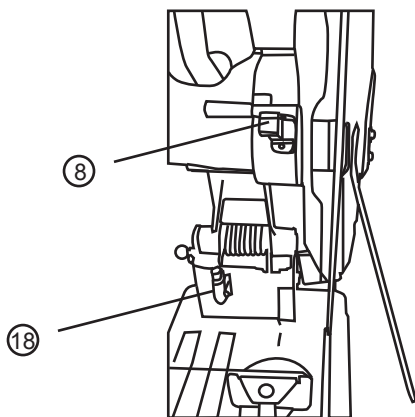

Figure 5: Removing Cut-off Wheel
- > Loosen Depth Nut , and adjust Depth Bolt to prevent new Cut-off Wheel from cutting into underlying(18) surface. Tighten Depth Nut afterwards. See Figure 5.